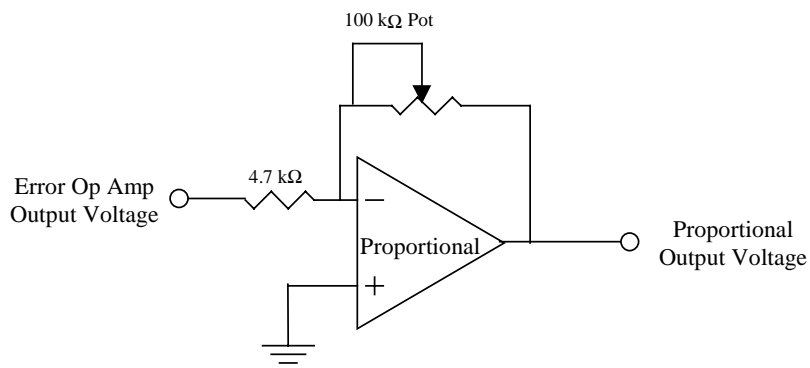

Figure 18a: Proportional controller circuit diagram
- Connect the proportional op amp as shown in Figs. 18a-b. The pot should be connected using the bottom and center leads. This way the resistance will increase as the knob is turned to the right. Please note this time there are 4.7 k Ω resistors being used along with a 100 k Ω resistor.